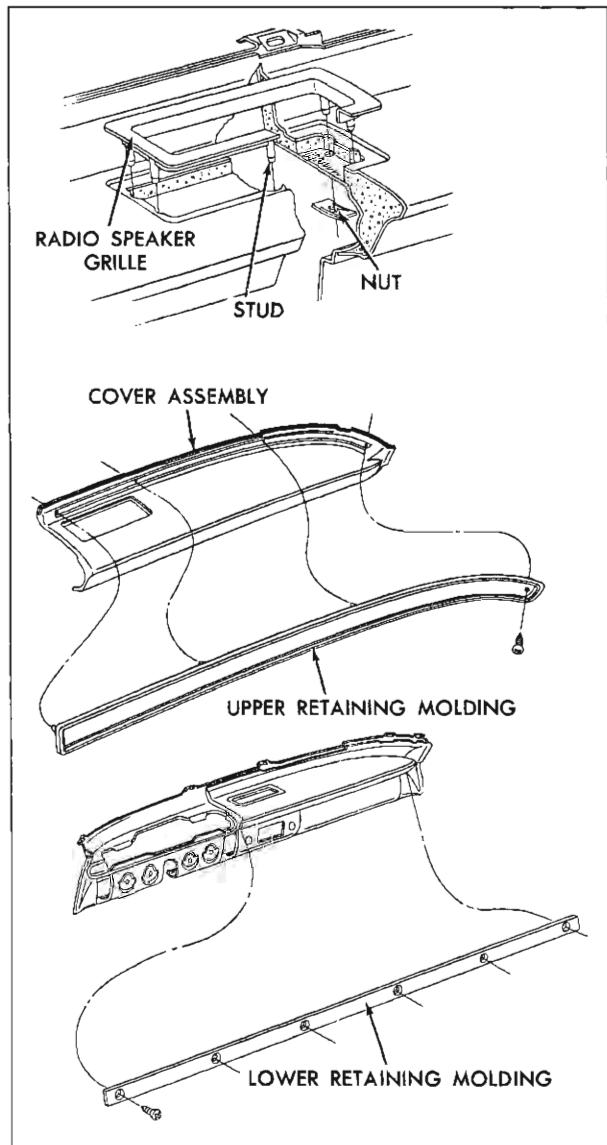

Fig. 11-24 Instrument Panel Cover Installation
1. From underside of instrument panel remove attaching nuts indicated in Fig. 11-24 and remove cover assembly.
The radio speaker is secured to the instrument panel by studs and nuts (Fig. 11-24).
The instrument panel cover assembly covers only approximately three-fourths ($\frac{3}{4}$) of the instrument panel. The cover is secured to the instrument panel by an upper molding, radio speaker grille and lower retainer molding. The upper molding is secured to the upper instrument panel by one (1) exposed screw and studs and nuts. The lower molding is secured by screws (Fig. 11-24).
3. From underside of instrument panel remove radio speaker grille attaching nuts and grille (Fig. 11-24).
4. From underside of instrument panel remove upper cover retainer molding attaching nuts, exposed screw and molding (Fig. 11-24).
5. Remove lower cover retainer molding (Fig. 11-24).